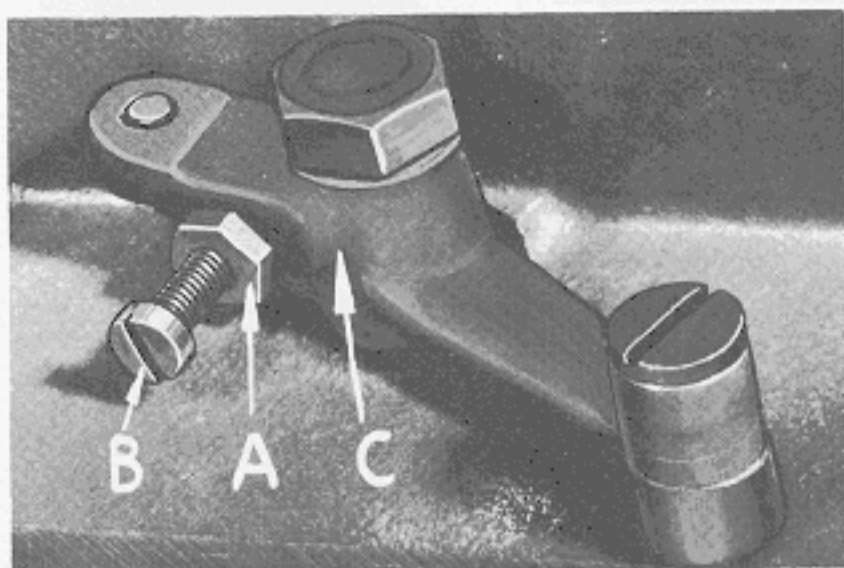
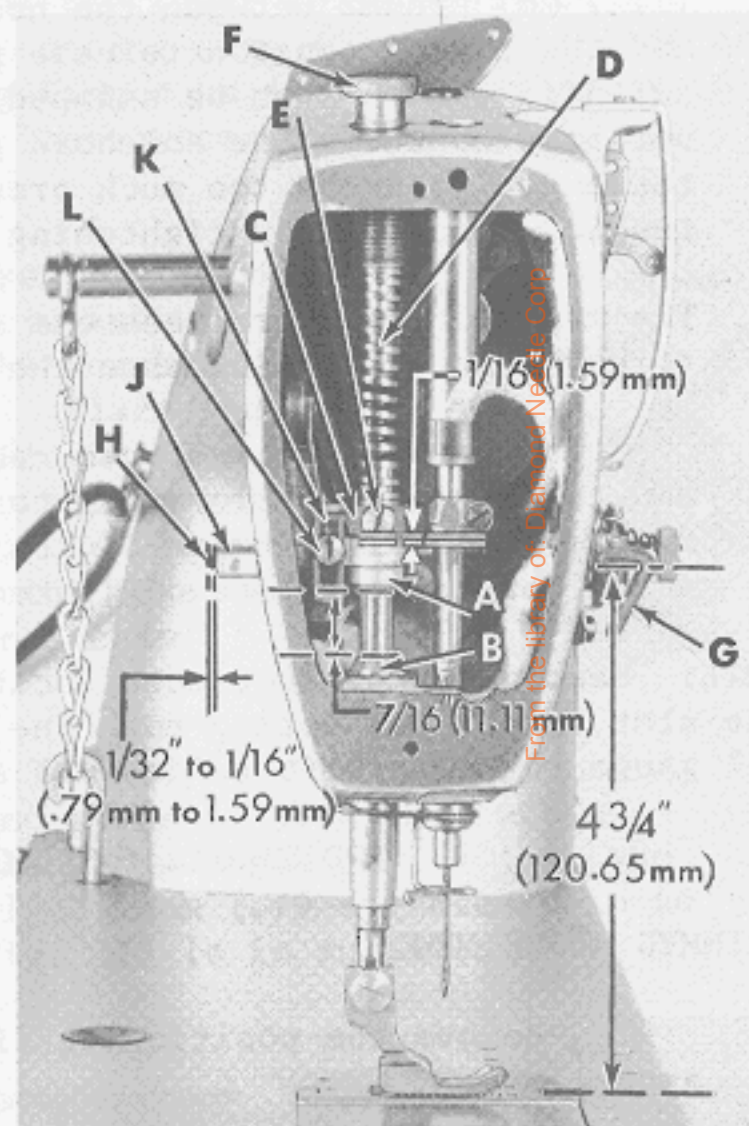
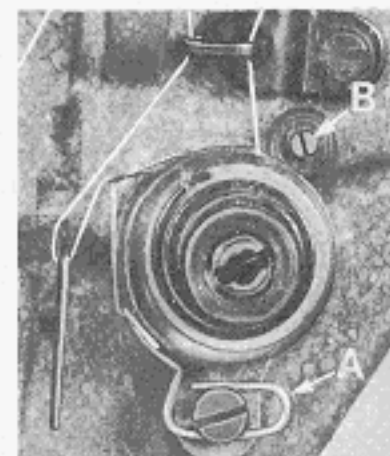

Fig. 15
Fig. 16A
Fig. 18A
The presser bar connection (A, Fig. 16A) should be set so that it is $\frac{7}{16}$ inch (11.11 mm) above the presser bar bushing (B) on Style 63400 KC, as shown in Fig. 16A. This dimension should be $\frac{1}{32}$ inch (.79 mm) on Style 63400 C. This is accomplished by tipping the machine back against the rest pin, loosening lock nut (A, Fig. 15) and relocating the stop screw (B) on the lifter lever bell crank (C). By turning the stop screw to the right or left, proper setting of the presser bar connection should be obtainable. Tighten lock nut (A) to secure the stop screw in place.
When locating the presser bar guide (C, Fig. 16A) the presser foot must rest directly against the throat plate with the feed dog in its lowest position. The guide is set properly when there is a $\frac{1}{16}$ inch (1.59 mm) space between the bottom of the presser bar guide (C) and the top of presser bar connection (A).
To obtain this setting, remove the pressure from the presser spring (D, Fig. 16A) and loosen set screw (E). Tap on the presser foot to insure its being down on the throat plate. Set the guide to the $\frac{1}{16}$ inch (1.59 mm) dimension, center the foot by turning it so that the needle enters the middle of the needle slot. Retighten screw (E) in guide and apply pressure to the presser foot by turning the presser spring regulator (F) clockwise.
Set the needle thread pull-up bracket (G, Fig. 16A) so that the underside of the bracket is $4 \frac{3}{4}$ inches (120.65 mm) above the throat plate (Fig. 16A).
1. Set the tension assembly so that the tension discs are centered on the check spring eyelet (A, Fig. 18A).
2. Solenoid plunger pin (H, Fig. 16A) must touch tension release pin and the end of plunger pin must protrude a minimum of 1/32 inch (.79 mm) to a maximum of 1/16 inch (1.59 mm). If adjustment is required move tension post assembly in or out by loosening set screw located under machine arm and moving stop screw (B, Fig. 18A) as required.
3. Tension release solenoid is secured to flat of bushing (J, Fig. 16A) with a set screw in bracket. Solenoid plunger pin (H) is to have approximately .005 inch (.127 mm) clearance between it and the tension release pin without thread in the tension disc.
4. The manual tension release cam (K, Fig. 16A) should be set so that it will not release thread tension when the presser foot is raised for back tacking.
The tension release cam can be positioned by loosening screw (L, Fig. 16A) and then raising or lowering to suit the sewing conditions. The average tension release point is between 1/4 to 5/16 inch (6.35 to 7.94 mm) of presser foot lift above the throat plate. Tighten screw securely.